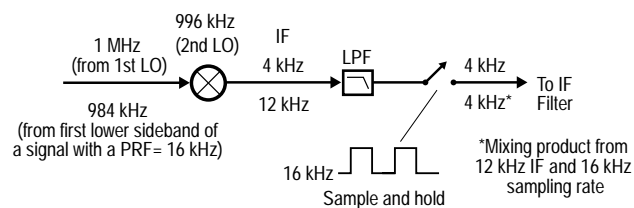

Figure 7. Pulse sidebands are downconverted and sampled by the receiver.
2. The next case is for a PRF greater than the IF BW, but less than the sampling rate of the analyzer's (ADC) analog-to-digital converter. Pulsed measurements are possible as long as the PRF does not generate a sideband at the sampling rate of the analyzer. For the 8753E and 8720D family, the ADC sampling rate is 16 kHz. If any PRF sideband occurs at 16 kHz, it will be downconverted and be sampled by the receiver (Figure 7). Therefore, signals with a PRF of 4 kHz, 8 kHz, or 16 kHz would not be allowed.